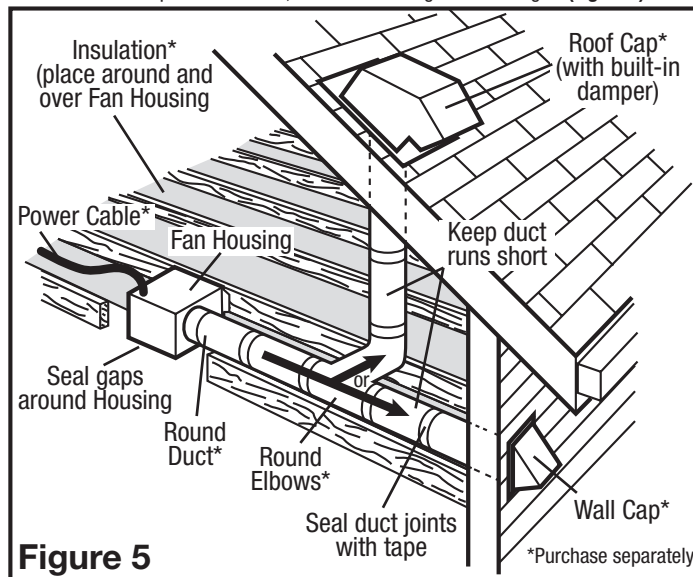

Figure 5
- Ensure duct joints and exterior penetrations are sealed with caulk or other similar material to create an air-tight path to minimize building heat loss or gain and to reduce the potential for condensation. Place/wrap insulation around duct and/or fan in order to minimize possible condensation buildup within the duct, as well as building heat loss or gain (**Figure 5**).